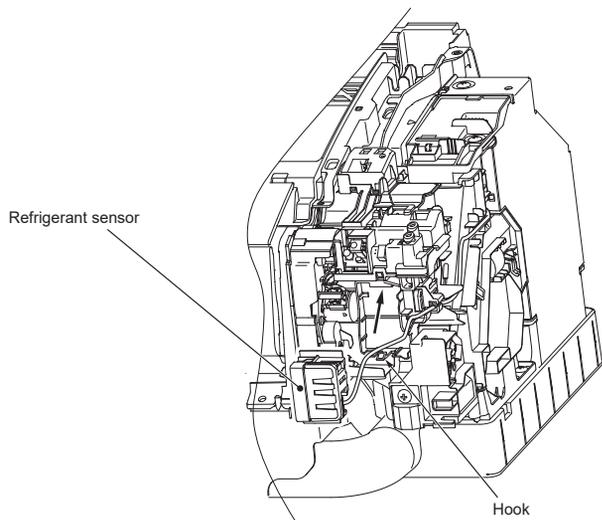

Fig. 2
#### Installation procedure (Fig. 2)
- 2) Insert the refrigerant sensor in the direction of the arrow and then fix it with the hook. (Fig. 2)